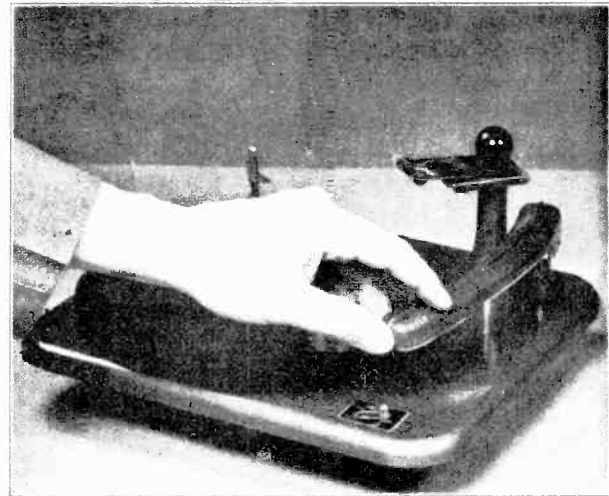

FIG. 3
2. **Tonearm** should be moved to engage notch marked "A" (automatic) on base of **tonearm**. (See Fig. 3).